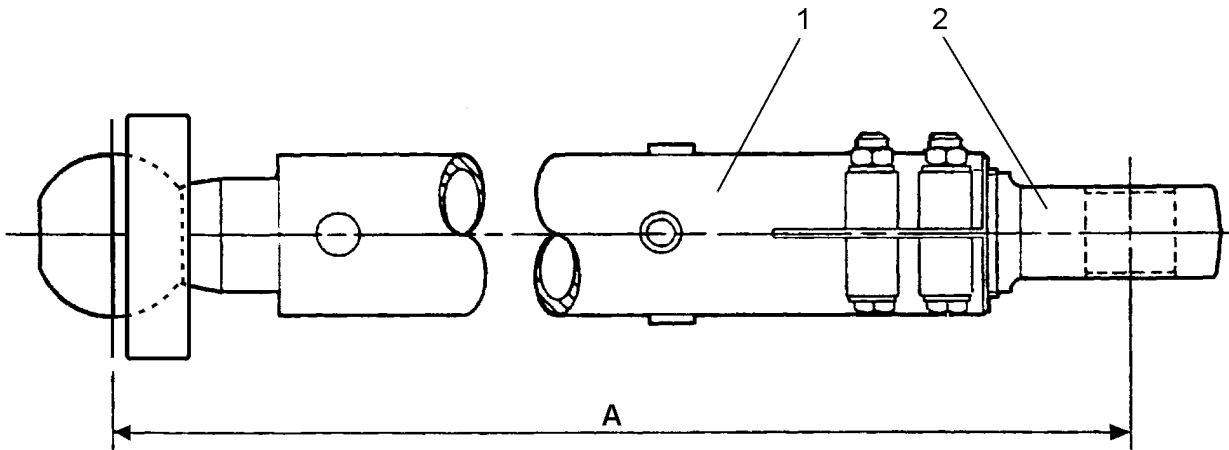

Fig. 17.7. Diagonal Strut Adjustment
3. Remove the eye bolt (2, Fig. 17.7) from diagonal strut (1).
1. Install the eye bolt (2, Fig. 17.7) on strut (1).
2. Adjust the diagonal strut to nominal mounting length 1034 ± 1 [mm] (Fig. 17.7).